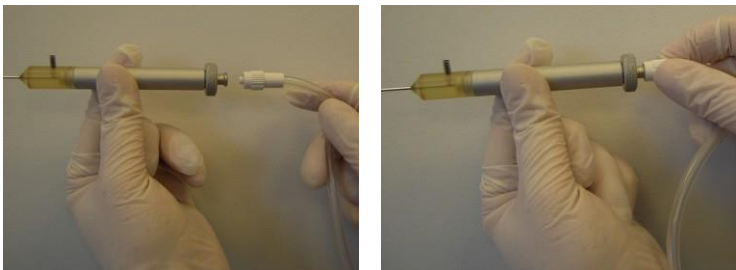

Figure 3-82. Connecting the Screw End of the Implantation Tubing to the Handpiece Base
6. Connect the screw end of the sterile implantation tube to the handpiece, by screwing the tube's connector to the handpiece base, as shown in Figure 3-82.